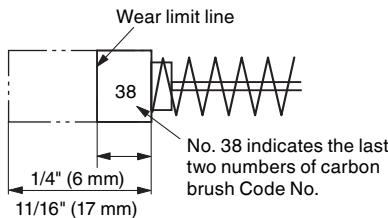
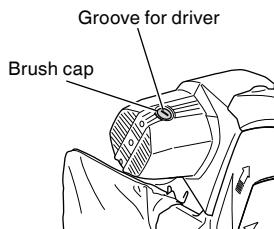

Fig. 53
Fig. 54
### 2. Inspecting the carbon brushes (Fig. 53 and Fig. 54)
Therefore, inspect the carbon brushes periodically and replace them when they have become worn to the wear limit line as shown in Fig. 53.
The carbon brushes can easily be removed after removal of the brush caps (see Fig. 54) with a slotted (minus) screwdriver.
**NOTE:** When replacing the carbon brushes, use only metabo HPT carbon brushes having "38" in the last two digit of its Code No. (see Fig. 53). If you use other carbon brushes, the electric brake will not operate.